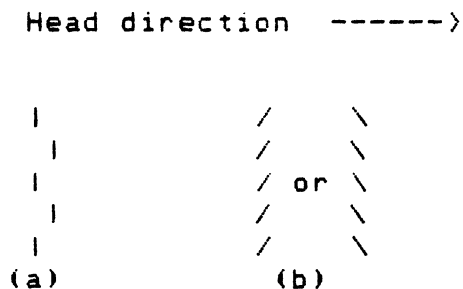

Figure 5-1 Row alignment vs. Vertical alignment
This test is aimed at three quality areas, (1) Dot row alignment, (2) Head Skewing, and (3) Print shading. Dot row alignment is measured by printing vertical one dot wide columns. Only eight dots of the column are printed on each pass of the head. These eight dot segments should all meet end to end, with a error tolerance of +-XX cm. See figure 5-1 (a) for example. Horizontal dot row alignment is affected mostly by a misadjusted Encoder assembly.
There are two types of head skewing that will affect print quality most. One is fixed vertical head rotation. This is related to the dot row alignment test and is observed at the same time. See figure 5-1 (b) for an example. This is caused when the head is rotated slightly clockwise or counter clockwise from the vertical. When this happens the eight dot line segment will be printed slanted and as a consequence will not line up end to end. The other type of skew is the variable vertical head oscillation. This is caused when heavy printing makes the head kick back, and causes it to pivot on its carriage mount. When this happens it will make the print appear to move up slightly. This event is tested by printing a solid one dot row across the page with intervals of heavy black out printing. If the dot row line appears to wiggle when the black out print occurs this is variable vertical head oscillation. This skew should not be greater than +-XX cm.